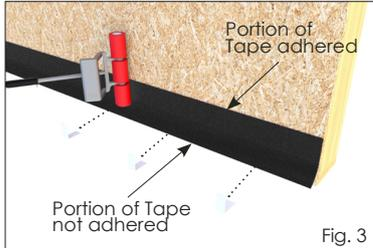

Fig. 3
1. Apply 150mm DriFlash Split Liner Tape to the bottom edge of the wall panel. Create a flap by removing one release liner and adhering the top half of the tape firmly with a roller or squeegee. (Fig.3)